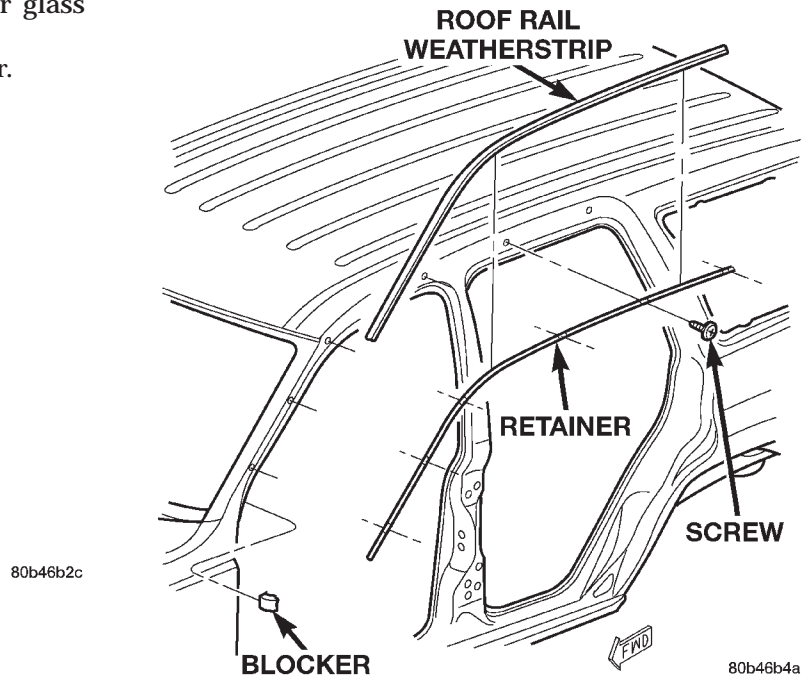

Fig. 51 Upper Body Seal With Retainer
- (1) Open front and rear doors.
- (2) Remove secondary seal from retainer to access the screws holding the retainer to the A pillar and roof panel.
- (3) Remove the screws holding the retainer in place (Fig. 51).
- (4) Remove the retainer.